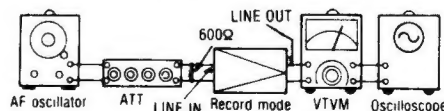

Fig. 16
1. Make connections as shown (See fig. 16).